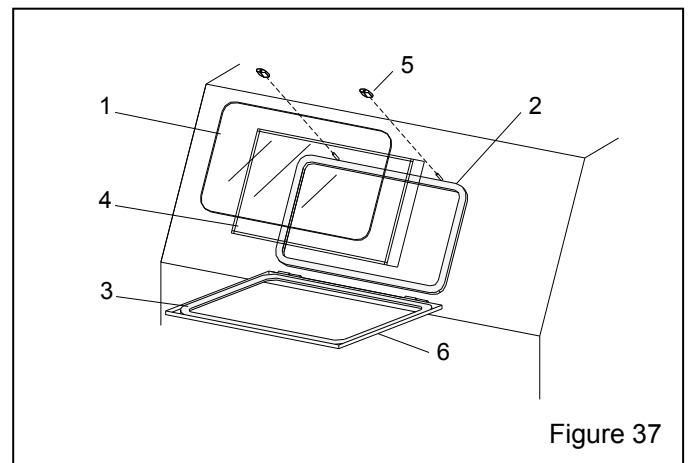

Figure 37
**9.9 View Window Assembly, Figure 37**